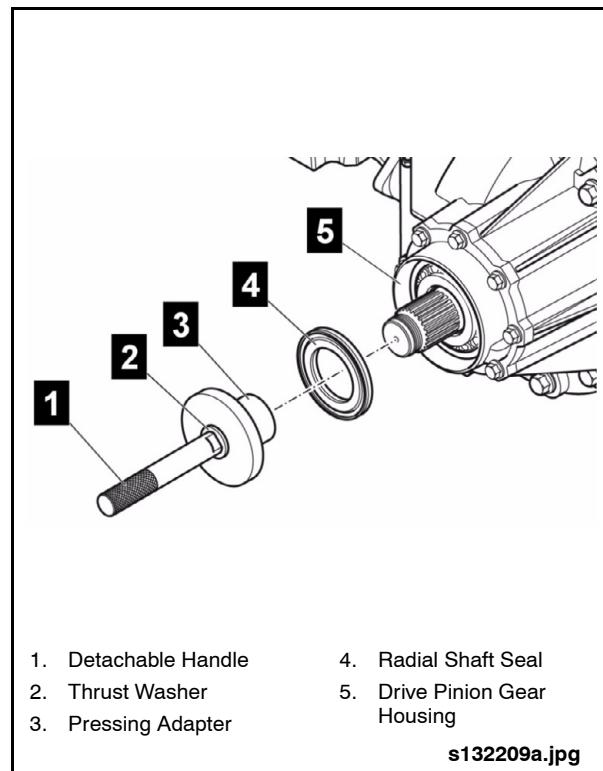

Fig. 2-38: Installing Radial Shaft Seal
2. Press the open side of the new radial shaft seal into the drive pinion gear housing as far as possible. See "Fig. 2-38: Installing Radial Shaft Seal" on page 35.